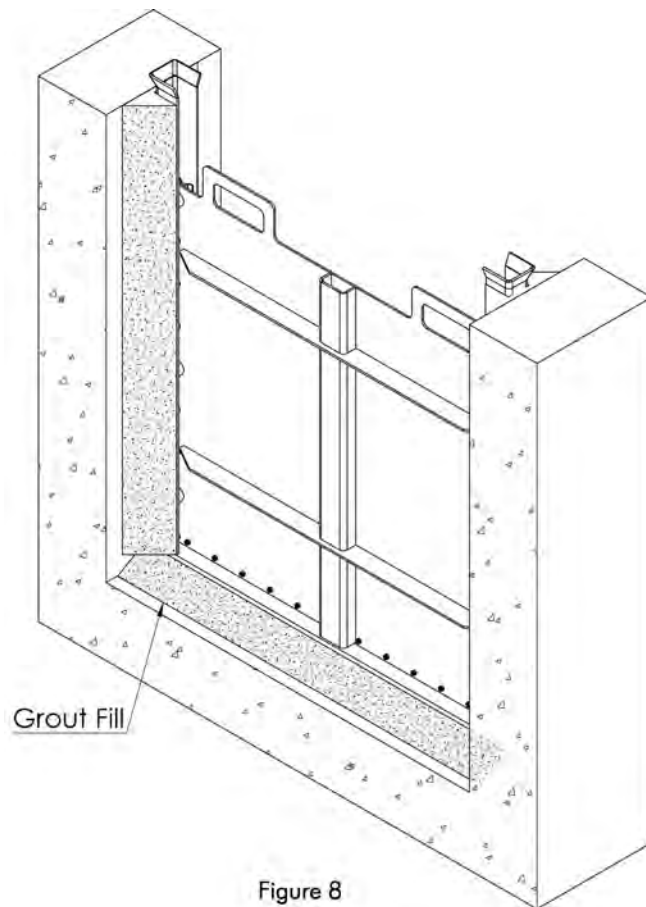
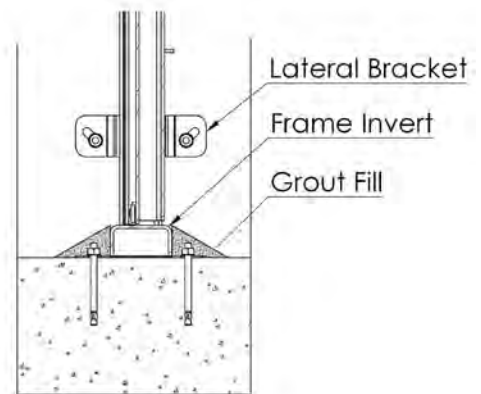
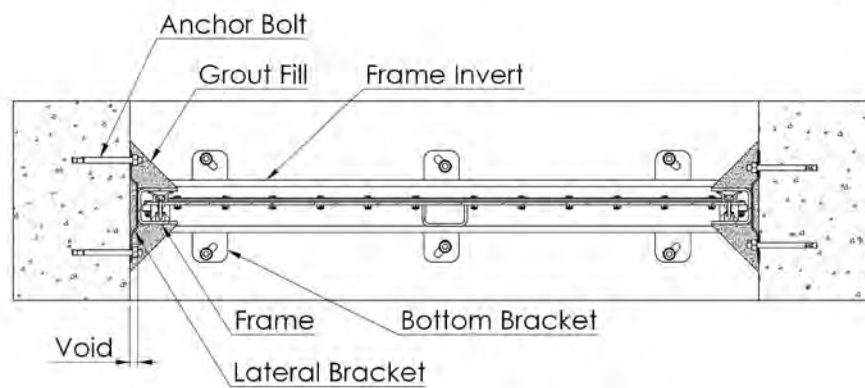

Figure 8
Figure 9
Figure 10
- Grout fills the remaining voids (See Figure 8), both at the bottom (See Figure 9) and laterals of the gate (See Figure 10). Remember that the objective of the grout fill twofold:
- Make a smooth transition for water flow. Therefore, the grout shall be built-up to the level of the frame as shown in Figures 9 and 10.